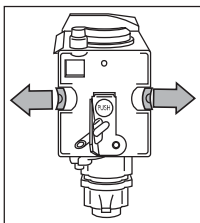

Fig. 44
- Once inserted, make sure the two red buttons have snapped out (Fig. 44).